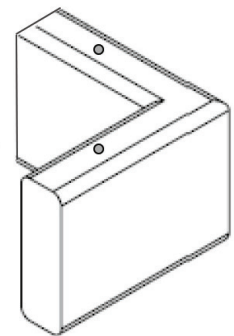

FIG 15.
- Once corner mitre has been fitted together, neatly drill 2x 3.5mm locating holes down through the top of the sliding door track (in the centre of the rebated slot) and 3.0mm pilot holes (30mm deep) into the nylon corner block (**FIG 15**).